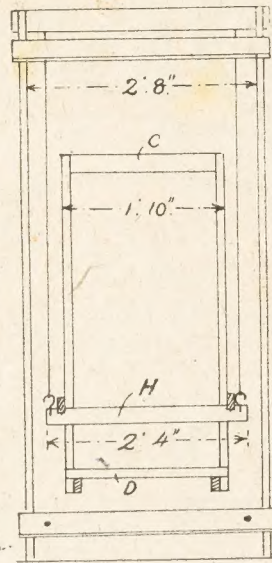

Fig. 2—Front view showing chair position
of the legs, and not to the other or they will not close or fold up so conveniently. The seat frame is composed of rails (H) and (G), screwed together. Note that rails (H) are fixed beneath (G), see Fig. 2, and that $\frac{1}{2}$ in. of the latter are cut away underneath where they fit over (H). The sides (B) of the chair are cut to length 4ft. 6ins. first.
It will be seen that it is notched on each side to fit between the side rails (B) of the chair. It is also nailed through the sides. Care should be taken to keep strictly to the measurements given in Fig. 2, so that the seat frame fits over the frame uprights, making a close and good fitting.
To finish the job two lengths of strong sash cord should be stretched between the trestle legs and fastened to the cross rails about 2ins. in from the ends, as shown by the holes in the rail in Fig. 2. These ropes will help to take the strain off the hinges at the top of the legs.